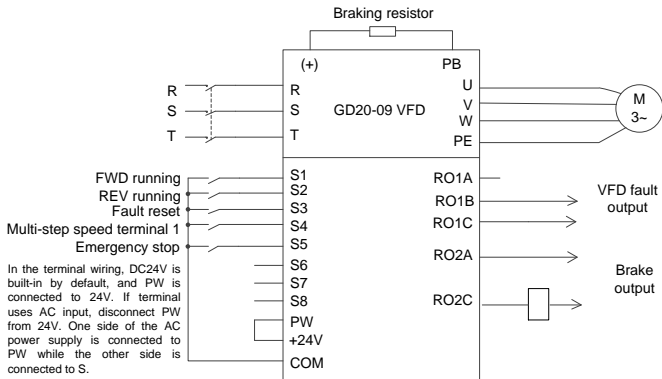

Figure 4-4 Wiring for the conical motor
**Note:** If the wiring is performed according to Figure 4-4, most VFD parameters need no adjustment. If the onsite function terminals are inconsistent with the terminals shown in the figure, manually adjust the input and output terminal functions according to the actual wiring after selecting the conical motor application macro.